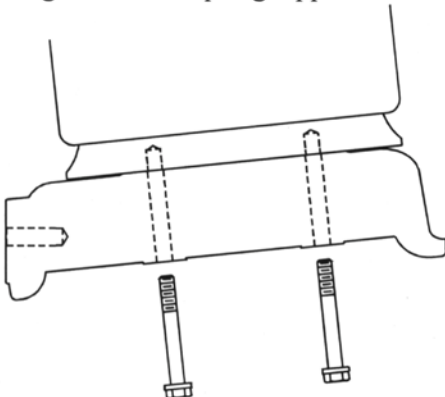

Figure 5 - Air Spring Lower Mount
3. Remove the bolts that secure the air spring to the lower control arm. See Figure 5.